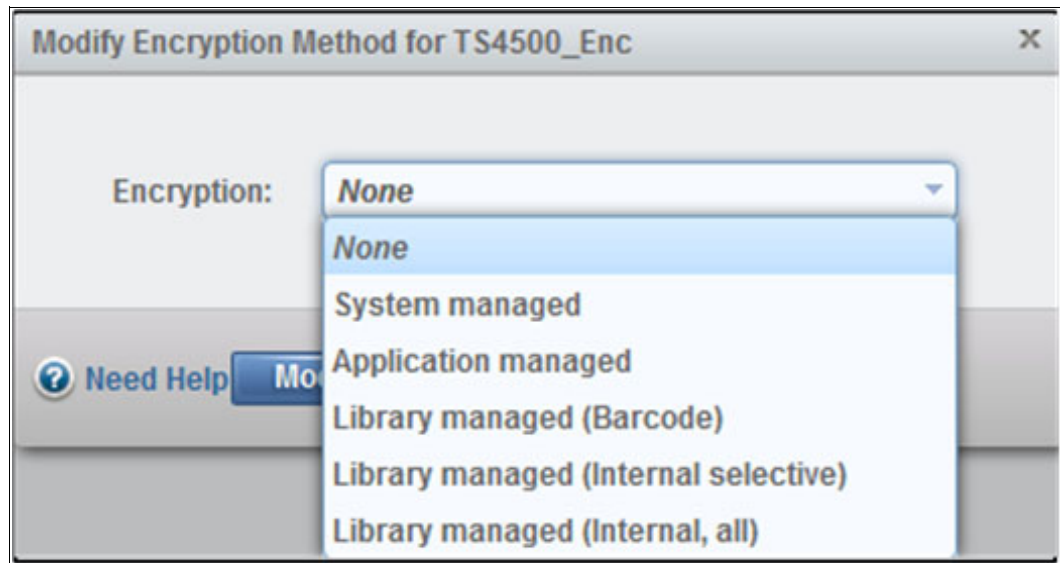

Figure 3-3 Modify Encryption Method window
3. Choose a method from the **Encryption** menu on the Modify Encryption Method window and click **Modify**, as shown in Figure 3-3 on page 195.